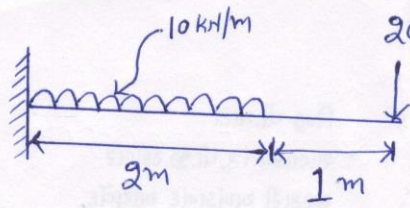

Figure-1 Q-3(c)
- (c) Draw Shear force and Bending Moment Diagram for Figure -1 **04**